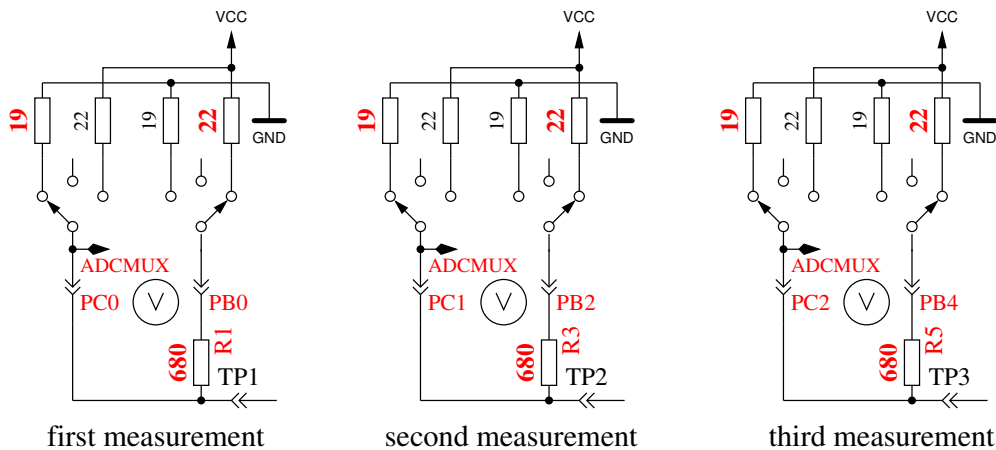

Figure 5.37: Measurement of internal resistance of Port C switched to GND
5. **This step tests the capability of GND (-) connected 470kΩ resistors (H) to pull the test pins to GND.** Row 1 shows the text “RH-”. Row 2 should display zero for all three pins.
6. **This step tests the capability of VCC (+) connected 470kΩ resistors (H) to pull the test pins to VCC (+).** Row 1 shows the text “RH+”. The results are shown als difference to VCC and should be near zero. Great differences from the best value for test 5 and 6 are errors such as isolation problem, flux material or damaged port.
7. **Measuring of internal resistance of pin output switched to the GND signal.** The text in the 1st LCD row is “Ri.Lo = (mV)”. In the second row of the LCD three voltages were displayed. The internal resistance of the port C outputs switched to GND (-) are measured with the current of to VCC (+) switched 680Ω resistors, see Figure 5.37. Only the three pins of the ADC port are measured, the resistor port B (PB0, PB2 and PB4) can not be measured without hardware modification. Is is assumed that the port resistance of the different ports are nearly identical. To get the resistor values, you must divide the displayed mV values by about 7 (see test 8).